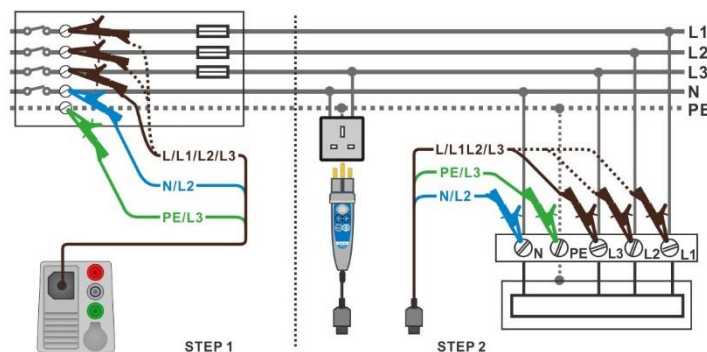

Figure 7.135: AUTO TT measurement
- › Connect 3-wire test lead or Plug commander to the object under test, see **Figure 7.135**.